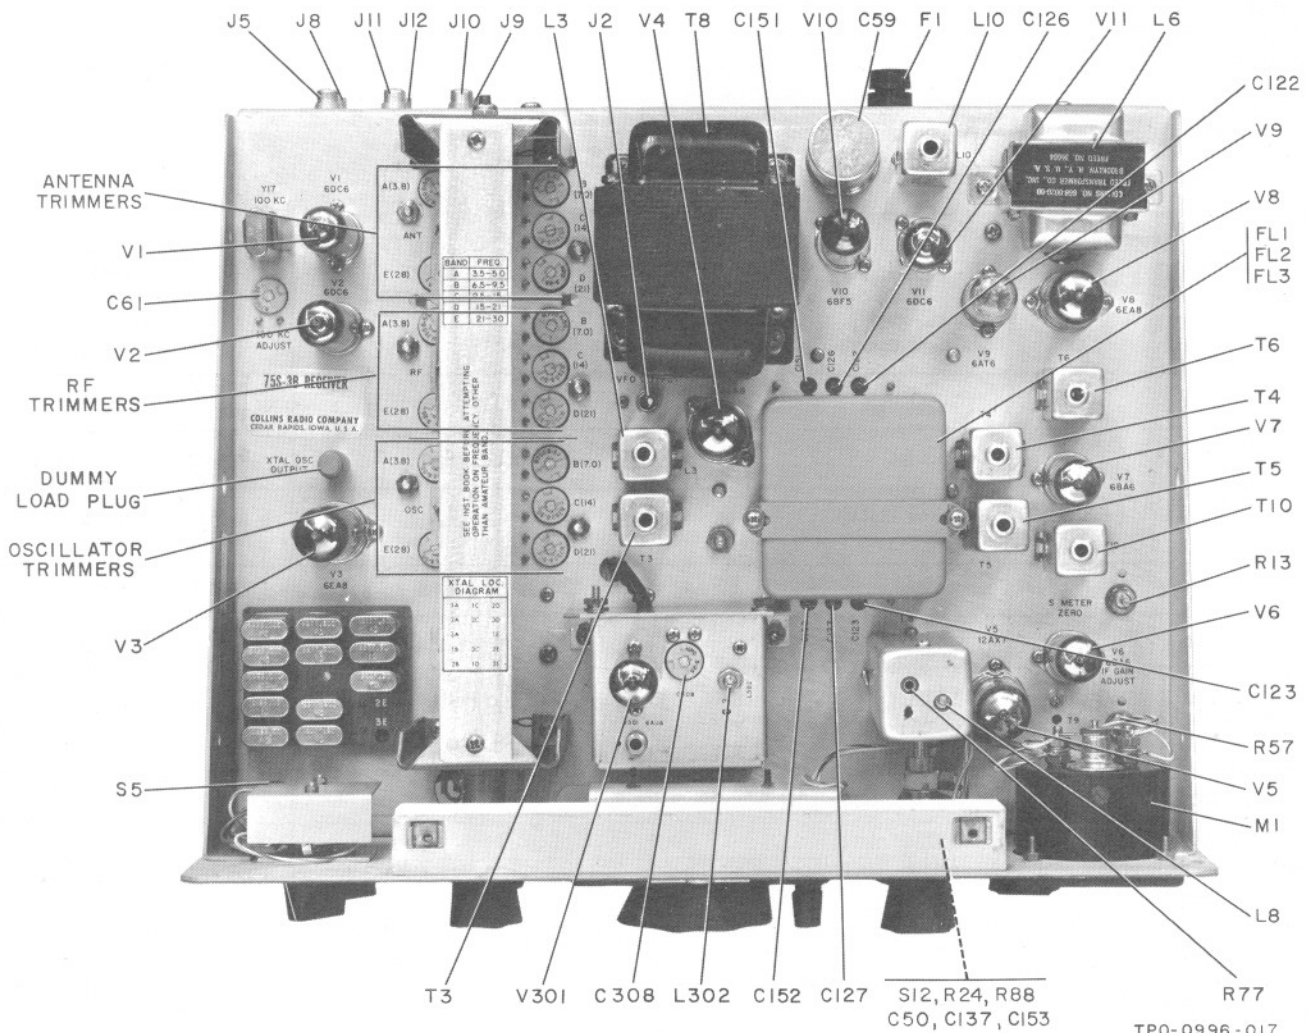

Figure 4-1. Location of Adjustments
source and the S-meter as a peak indicator. To provide a variable output attenuator for the calibrator, connect a 0.001-uf capacitor to one end of a 5000-ohm carbon potentiometer. Temporarily connect the free end of the capacitor to tube socket terminal 5 of V1, the crystal calibrator. Connect the rotating contact of the potentiometer to ground. Figure 4-1 shows the location of adjustments except for the filter input and output trimmer capacitors. These trimmers are located under the chassis adjacent to the mechanical and crystal filters. The rotary ceramic trimmers used in the receiver are at maximum capacity when the large notch is positioned midway between the two mounting screws. Rotation in either direction from this position reduces capacity with minimum being at 180 degrees from maximum.
- b. Set both A (3,8) RF and ANT trimmer capacitors so the large notches point to approximately 2 o'clock when viewed as shown in figure 4-1. Set the A (3,8) OSC trimmer so the large notch points to the rear of the chassis.
- f. Adjust E (28) OSC, RF, and ANT trimmer capacitors for peak S-meter reading. Adjust OSC trimmer first.
- h. Adjust D (21) OSC, RF, and ANT trimmers for peak S-meter reading. Adjust OSC trimmers first.
- j. Adjust C (14) OSC trimmer for peak S-meter reading.
- l. Adjust C (14) RF and ANT trimmers for peak meter reading. Maintain S-3 signal level.